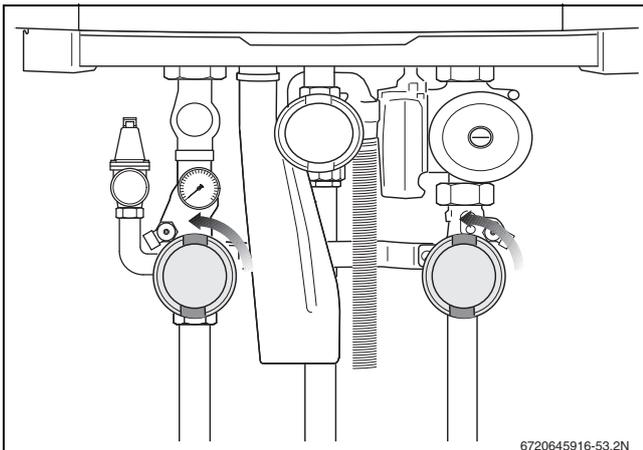

Fig. 57 Opening the isolating valves (here: open position)
- ▶ Open the heating supply and return isolating valves on the pump group (→ fig. 57). The open position is parallel to the pipe.